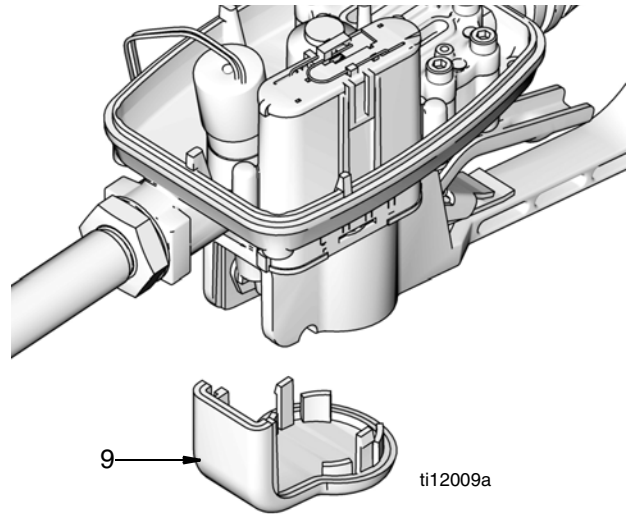

FIG. 36
8. Remove guard (9) by inserting your thumb or finger behind the cover and pry it loose. Then slide guard down and out of groove on housing (FIG. 36).